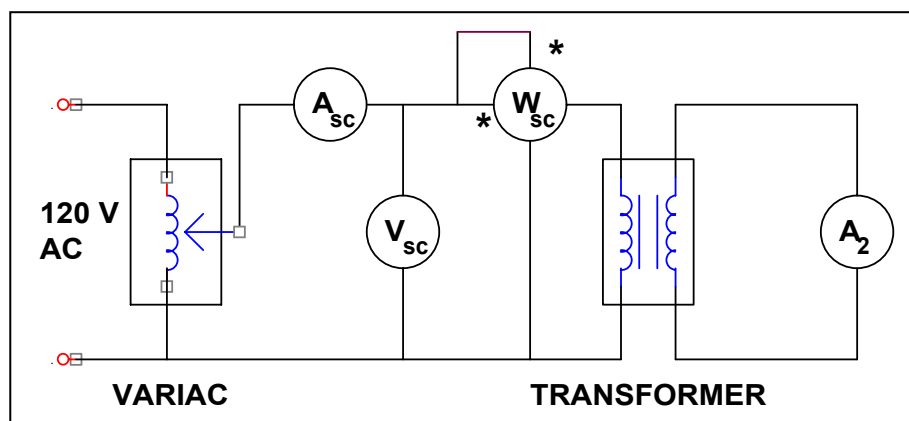

Figure 4.12. Transformer short circuit test measurements
5.1. Short-circuit the secondary winding through an ammeter as shown in Figure 4.12.